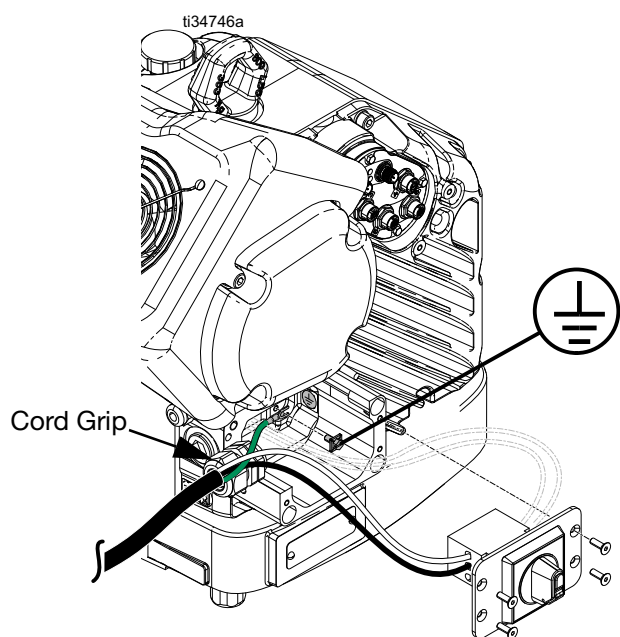

FIG. 9: Connect Power
4. Attach the ground wire to the ground terminal inside the junction box as shown in FIG. 9.